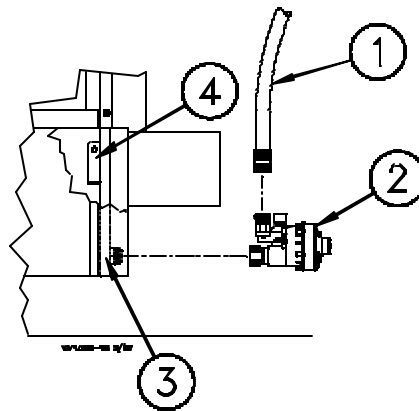

Figure 7. Inlet Installation
10. Connect the outlet end of the Water Level Regulator to the Trough End Assembly. See **Figure 7**.